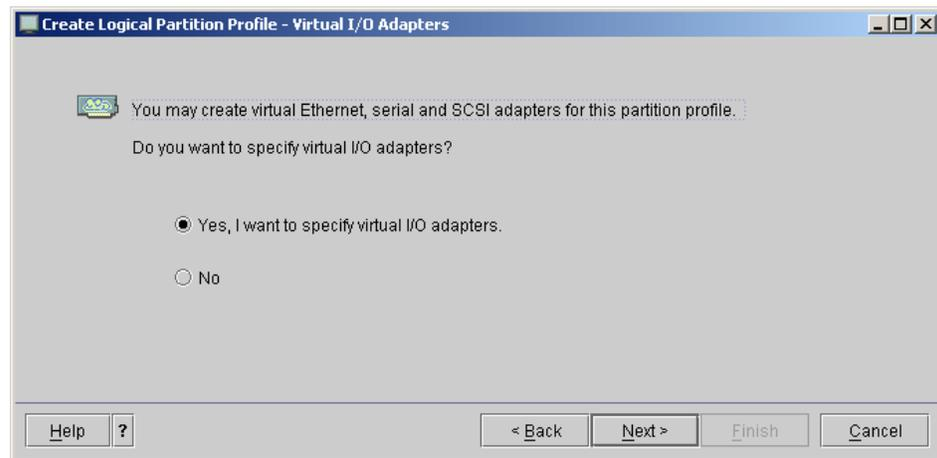

Figure 3-12 Skipping virtual I/O adapter definitions
12. Specify virtual I/O adapters by selecting the **Yes** button (see Figure 3-12).